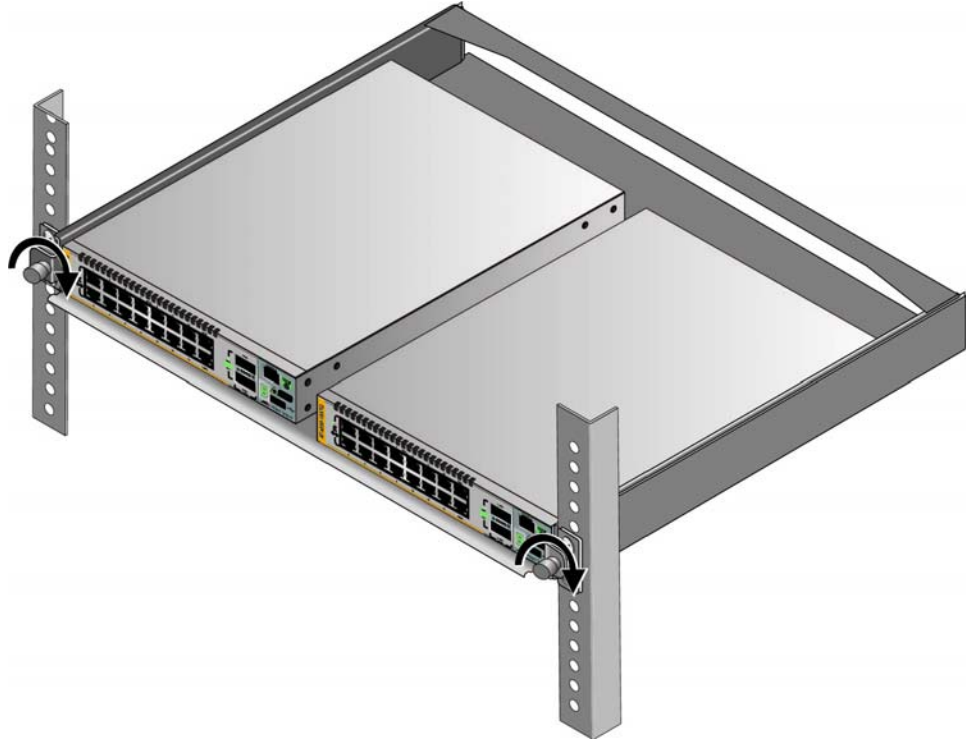

Figure 32. Tightening the Two Thumbscrews on the AT-RKMT-J15 Bracket
11. Tighten the two thumbscrews to secure the tray to the bracket. Refer to Figure 32 on page 69.